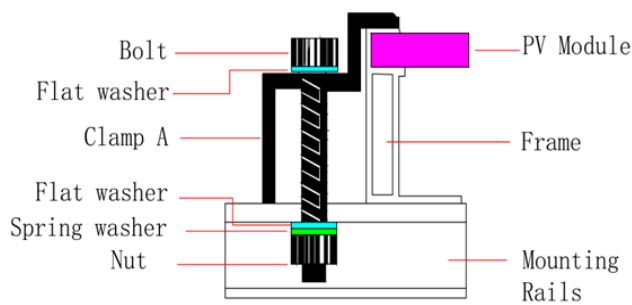

figure 5
- Clamp material should be anodized aluminum alloy or stainless steel. The mounting details are shown in the following *figure5* and *figure6*.